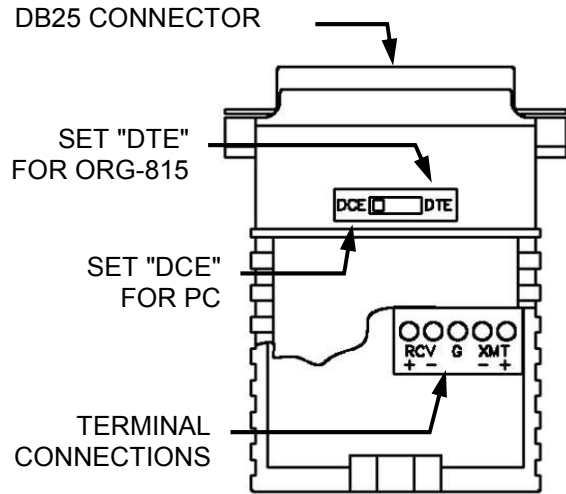

Figure 7.1 Limited Distance Modem
The LDM option is available for installations where it is not possible for the customers' computer to be located within 100 feet of the ORG-815 sensor. Two (2) LDMs are required to make the long distance connection between the ORG-815 and user PC. The LDMs operate transparently as if there were a standard cable connection. Figure 7.1 illustrates the key components of the LDM.
The LDM in the ORG-815 sensor is installed in the power supply box. The LDM at the user PC is connected to an available serial port such as COM2 on the back of the PC. The user makes connections to the small terminal strip on the LDM as shown in Figure 7.1.